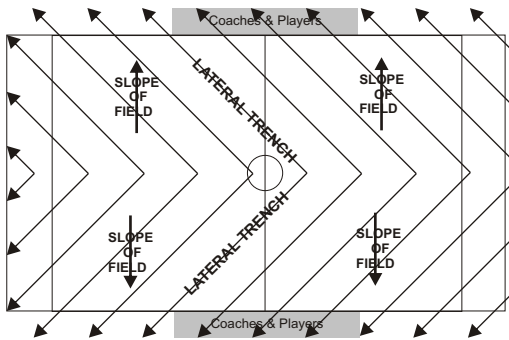

FIG. 8 LATERAL TRENCHES
2. Place *Lateral Trenches* across field (See Fig. 8) *Lateral Trenches* should intercept slope at 45 degree angles. Include extended area along sidelines for Coaches and Players.